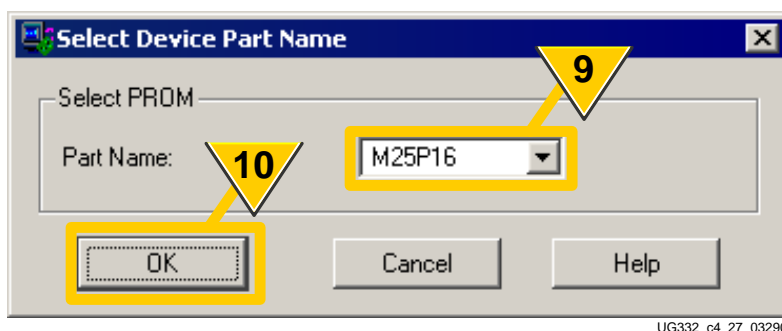

Figure 12-15: Select SPI Flash PROM Type
9. Select the part number for the attached SPI Flash PROM, as shown in Figure 12-15.